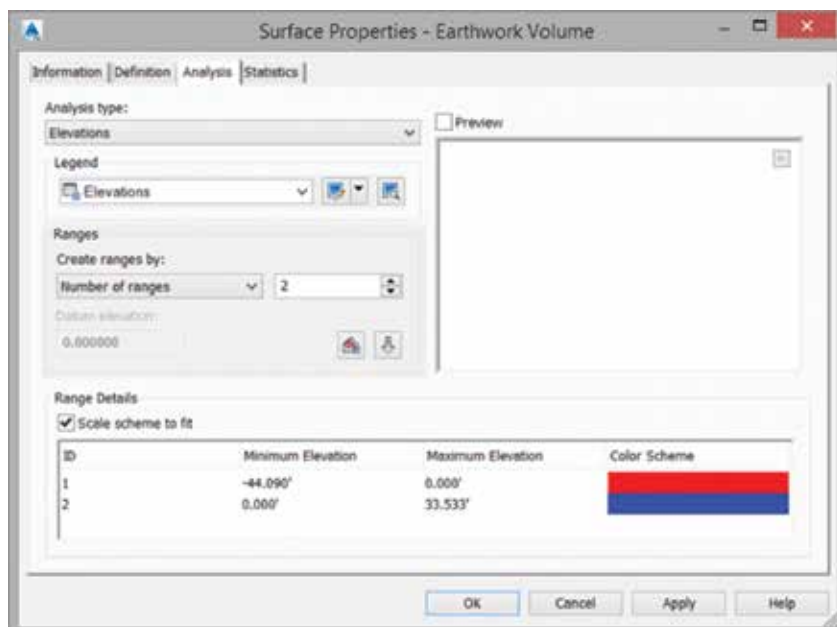

Figure 7: Surface analysis
5. Set the Minimum Elevation for the second range to 0 and set the color to Blue for Fill areas, as shown in Figure 7.